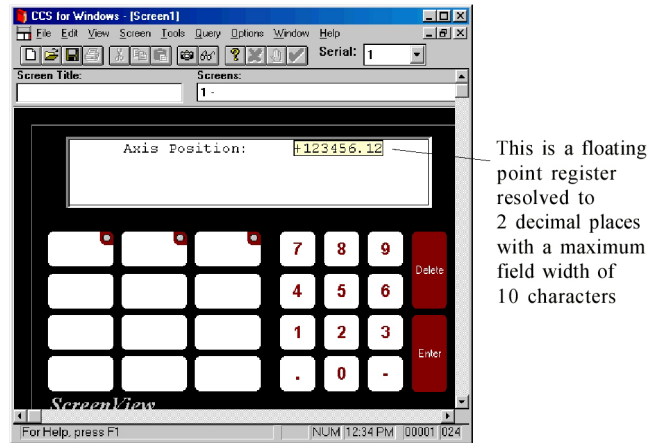

Figure 4.14: Using ScreenView
5. Click **OK** to see the new data field on the screen graphic (figure 4.14)